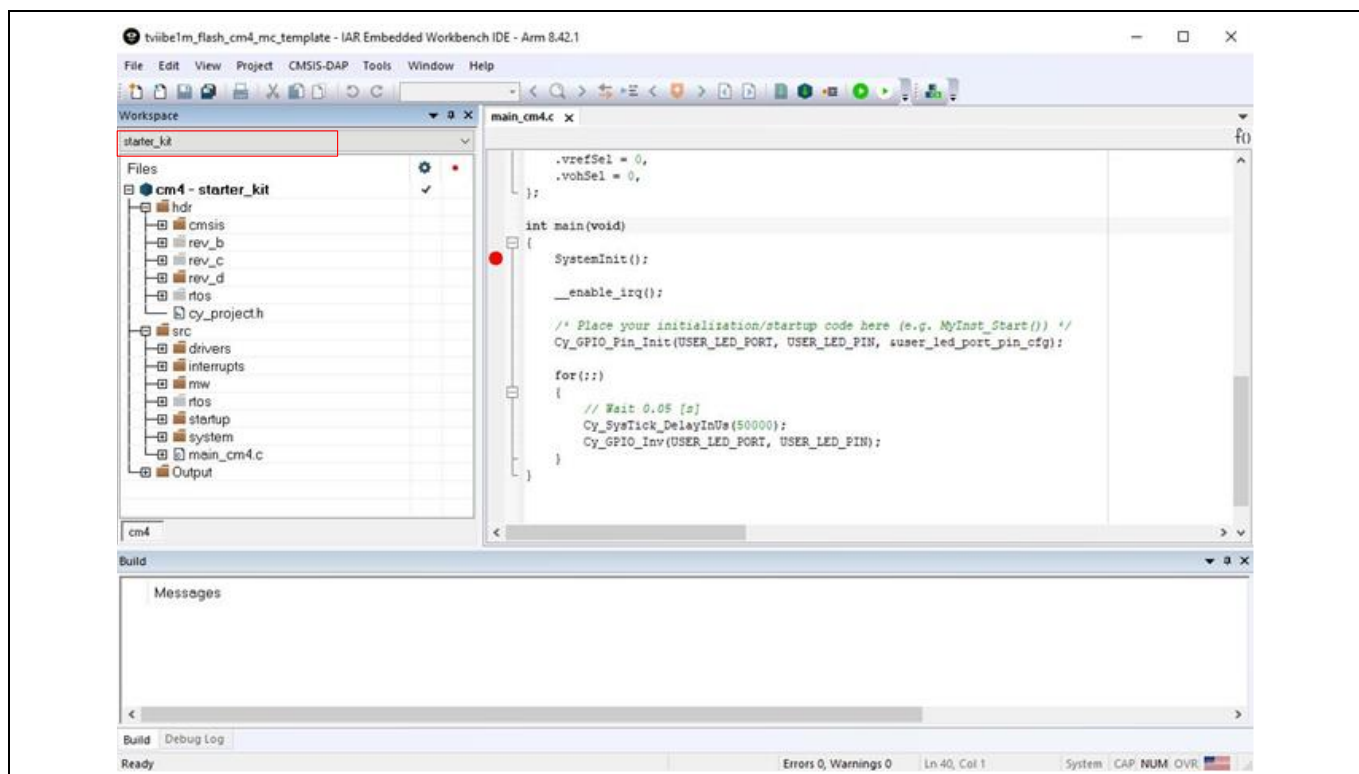

Figure 16 Selecting workspace revision
2. Select the workspace revision **starter_kit** from the drop-down list under **Workspace**, as shown in Figure 16.